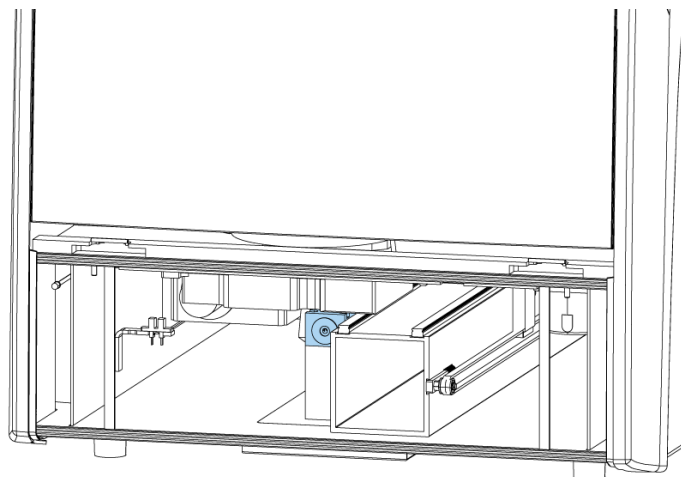

Figure 5–47 Internal view of the measurement chamber
5. Replace the front cover by first inserting the two top door latches into place while at the same time turning the cover 30° and then snapping it shut (Figure 2–2 and Figure 5–46). Also close the dispensing sliding cover (arrows in the opposite direction than in Figure 3–21).